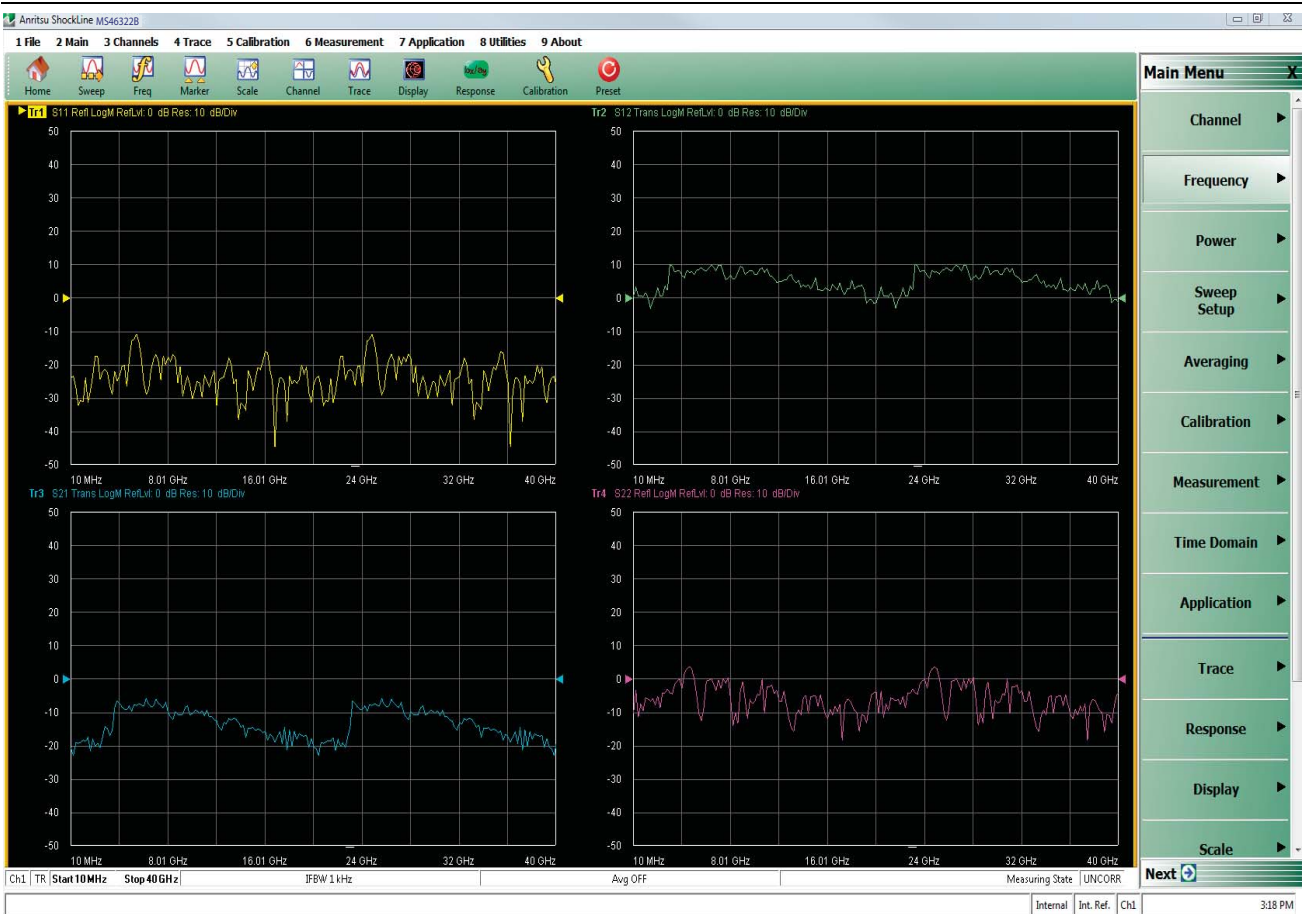
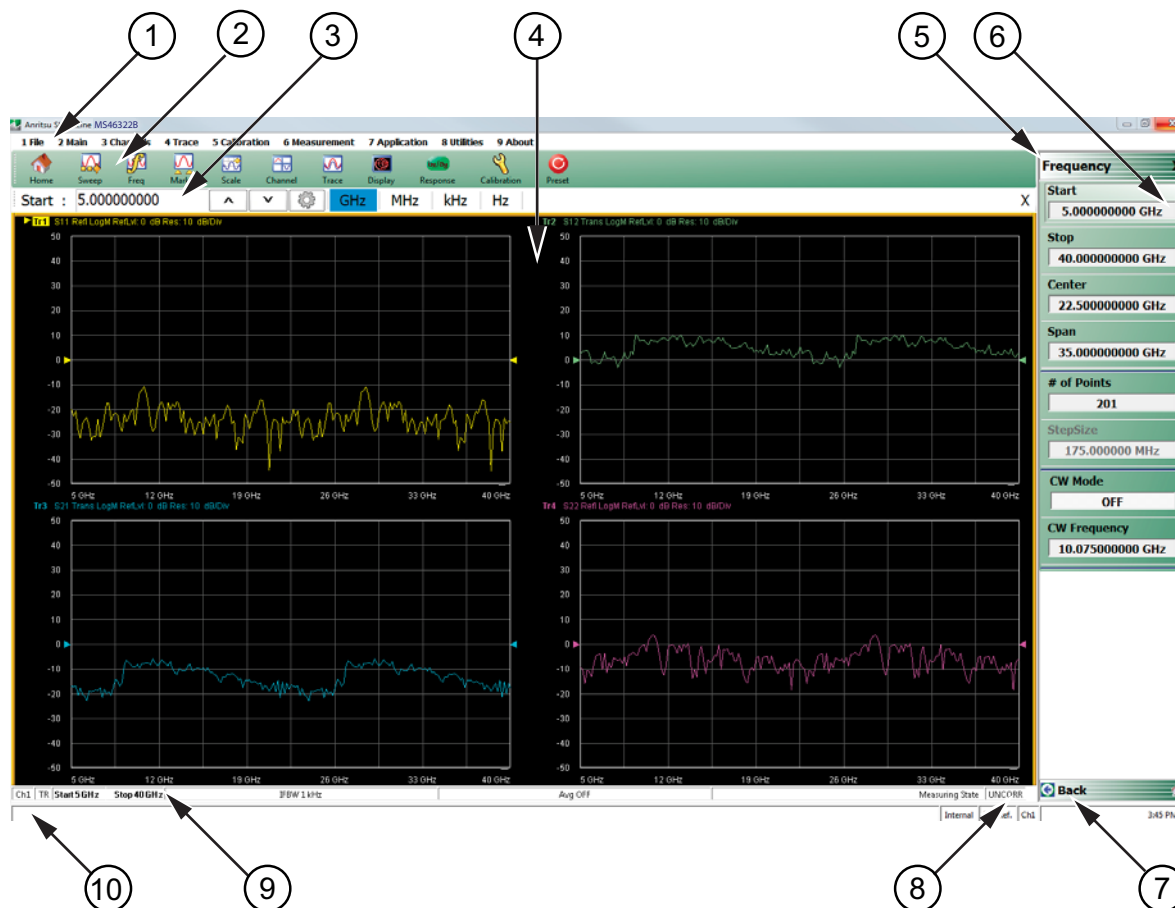

Figure 4-1. User Interface - Four Traces - Frequency Menu (simulated data)
Figure 4-2. User Interface Display Areas (1 of 2)
- When fully in operate mode, with an attached monitor, the ShockLine™ MS46322A/B Series VNA displays the main trace display with the application menus on the right side. See Figure 4-1, “User Interface - Four Traces - Frequency Menu \(simulated data\)” for a typical full screen display.
The main screen is shown below in Figure 4-1. The key areas of the main screen are the MENU BAR, ICON TOOLBAR, and MAIN MENU right-side function menus. These are identified in Figure 4-2 on page 4-2.
Mouse clicks are the main way to control the instrument main display, though keyboard or keypad can also be used for some items. Figure 4-2 below illustrates the general display areas and shows a single channel set up with four graphical traces.